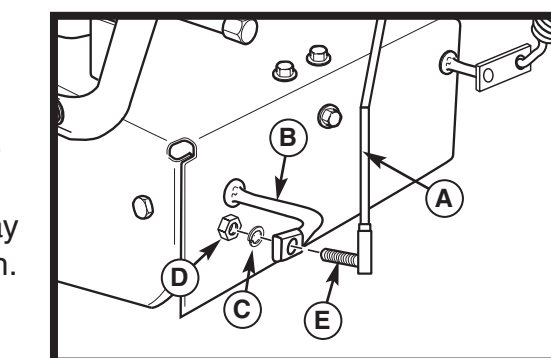

Figure 6
- Connect shift rod (A, Figure 6) to shift lever (B) secure with lock washer (C) and nut (D) with a 1/2" wrench and a 7/16" wrench to prevent stud (E) from turning.